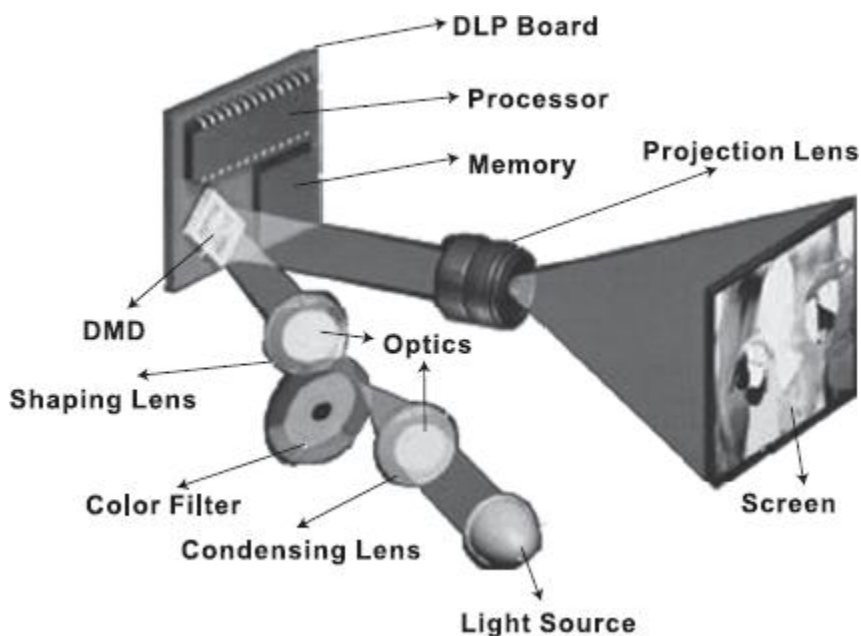

Figure 4.52 DLP Projector Display
- DLP Projectors:** DLP is the acronym for digital light processing. It is a proprietary technology developed by Texas Instruments. DLP uses a single digital mirror device (DMD) chip that has thousands of tiny mirrors, each representing a single pixel. These mirrors tilt back and forth, directing the light either into the lens path to turn the pixel ON, or away from the lens path to turn it OFF and create the image (see Figure 4.52). DLP is a newer technology than LCD and is used on some of the smallest, lightest projectors currently available. DLP projectors handle video images extremely well.